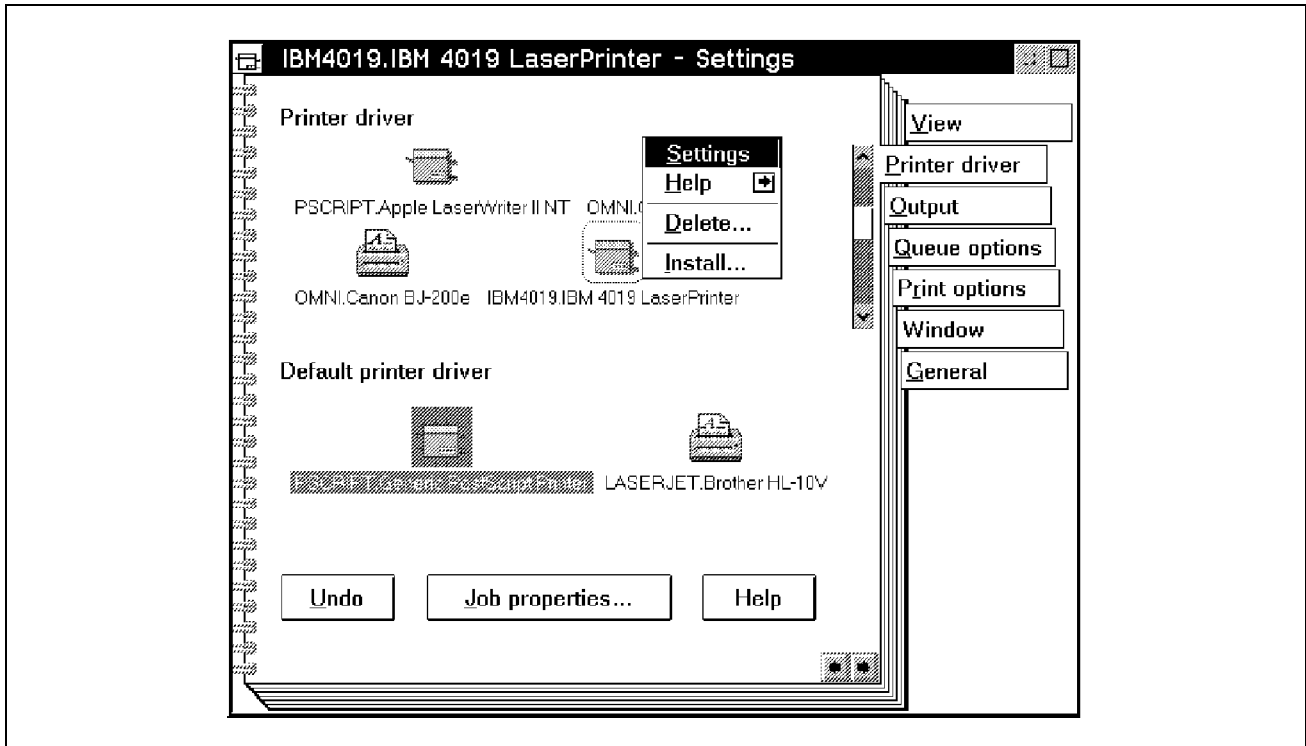

Figure 29. Printer Driver Settings Dialog
- Click on a printer driver symbol with mouse button two. The printer driver settings dialog appears as shown in Figure 29.